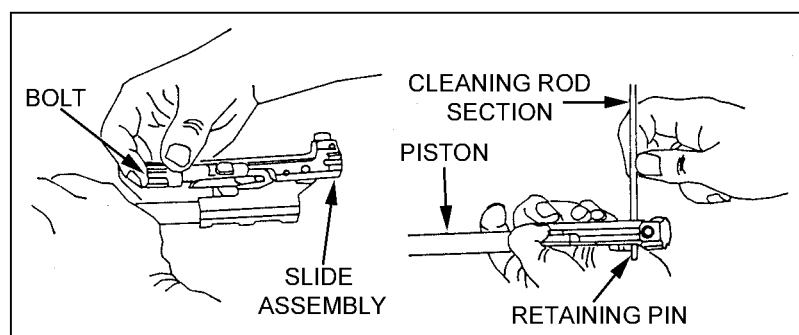

Figure 1-11. Separation of the operating rod group.
(6) To separate the operating rod group (Figure 1-11), hold the piston assembly in one hand, place your other hand on the bolt assembly, and rotate the bolt to disengage it from the slide assembly. Remove the firing pin spring from the firing pin, but be careful not to break the spring. If the spring sticks, rotate it clockwise to free it. The weapon will function without the spring, but this weakens the firing pin action. To separate the slide assembly from the piston, press the retaining pin at the rear of the slide assembly to the left and lift the slide assembly.